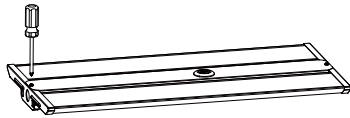

Figure 7
Step1.Unscrew the two screws on the front of the lamp;(Figure 7)